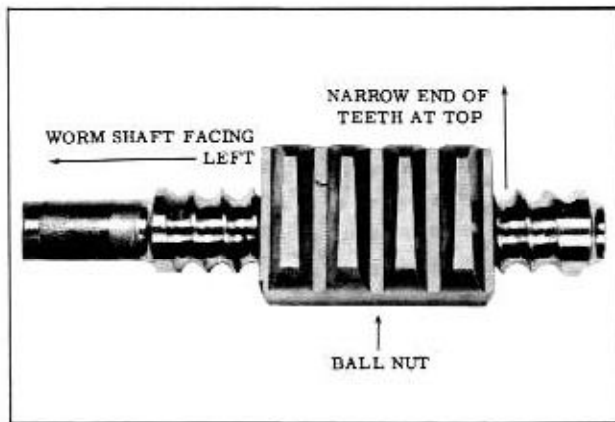

Fig. 4-16 Positioning Ball Nut
1. Slide ball nut over worm. (Fig. 4-16)